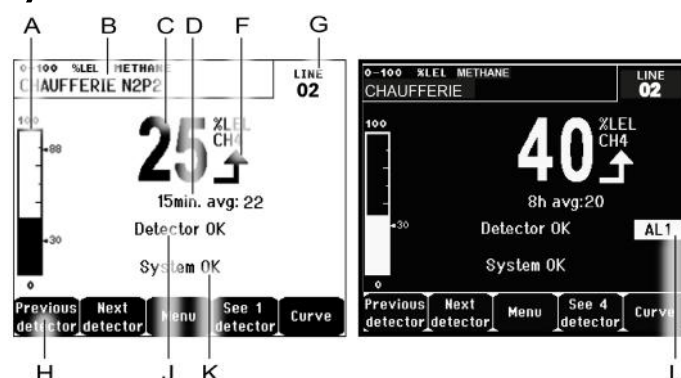
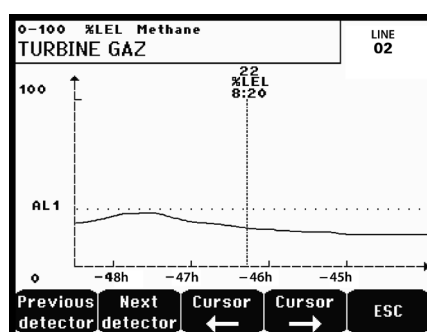

Figure 35: Example of the measurement display in normal mode and in grayscale mode
Figure 36: Example of a curve display screen
<ul style="list-style-type: none"> • Next detector: Display of measurements of next detector; scanning of all the detectors on all the lines. • Menu: Display of main menu See paragraph "Main menu" on page 44. • See 4 Detectors: Display of a group of 4 detectors (detector tag, barograph with indication of alarms, value of current measurement with unit and gas detected). Use the Page down or Page up keys to display all of the next 4 detectors; passage to the next zone is automatic. • See 8 Detectors: Display of a group of 8 detectors (detector tag, value of current measurement with unit and gas detected). Other buttons similar to the selection. See 4 detectors. • See 1 detector: Display in normal mode (Figure 35). • Curve: Display of the measurement curves of the last 10 days (Figure 36). The → and ← keys allow cursor displacement through the time scale. The vertical dotted line displays the concentration and time stamp of the point being considered. Escape: return to display of values.
L.	Zone of indication of activated alarms with blinking threshold display. The screen changes to inverse video (Figure 35).